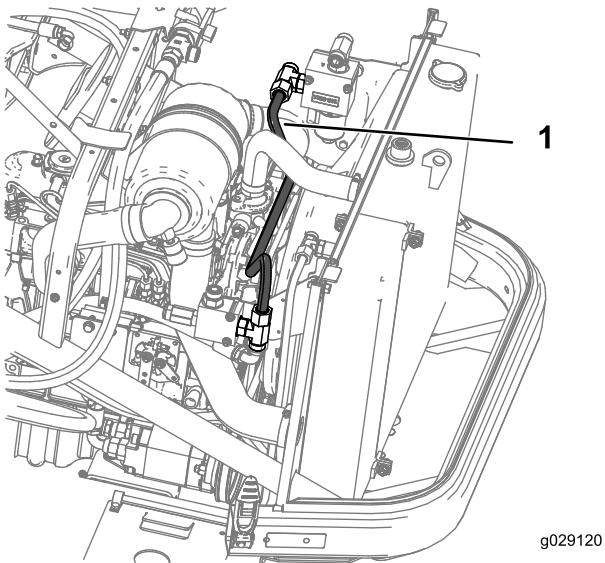

Figure 29
9. Install the hydraulic tube D from the tee-adapter fitting (5/8 inch male) on the right manifold assembly to the tee-adapter fitting (5/8 inch male) on the left manifold assembly as shown in Figure 29.